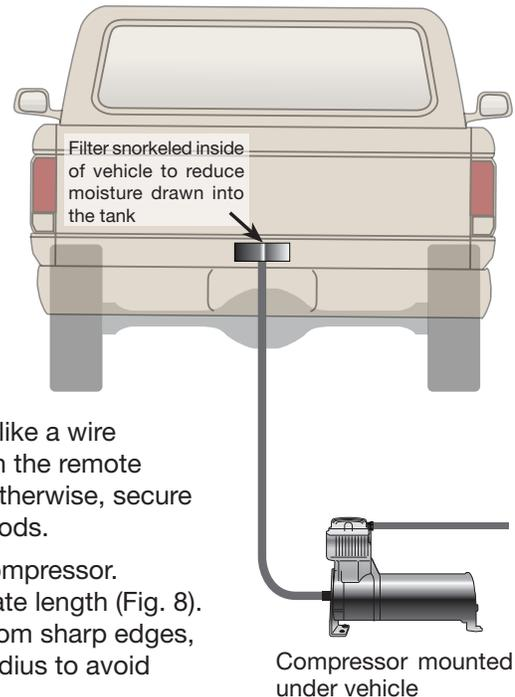

fig. 8
2. Prepare the compressor intake. If the compressor (A) is mounted inside the vehicle, attach the air filter to the port on the end of the compressor (Fig. 7). If the compressor is located outside the vehicle, snorkel the inlet air filter to a dry location inside the vehicle using components supplied with the compressor (Fig. 8).
5. Route the air line to the inlet port of the compressor. Measure and cut squarely to the appropriate length (Fig. 8). Make sure when routing you keep away from sharp edges, heat sources and allow for proper bend radius to avoid kinking.